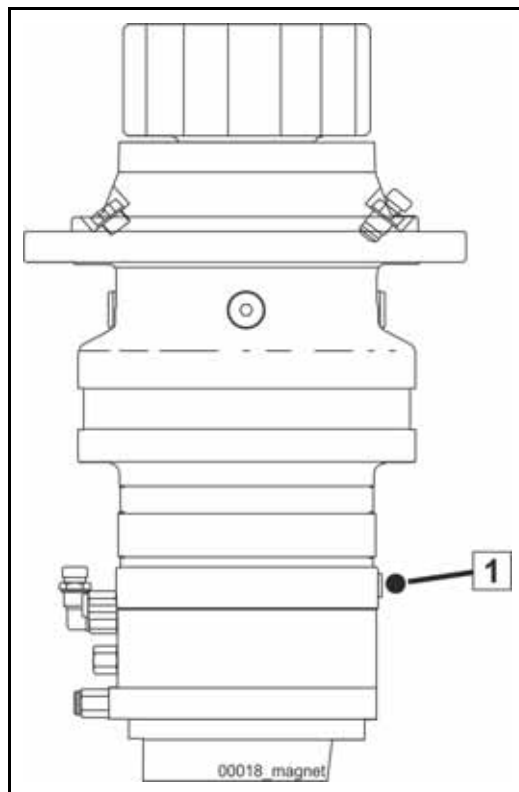

Fig. 298 Magnetic lock
- Check the magnetic locks on the gear for metal residue (1) (**Fig. 298**). In the event of large amounts of metal residue on the magnetic lock, contact Schwing's customer service